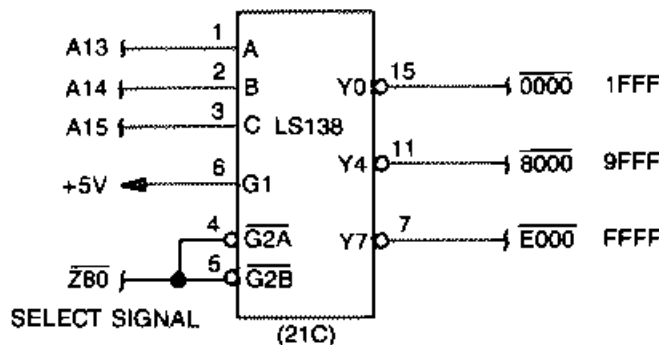

FIGURE 2-34. Z-80A MEMORY RANGE SELECT CIRCUIT
2.3.2.5 Z-80A Memory Range Select Circuit (Figure 2-34)